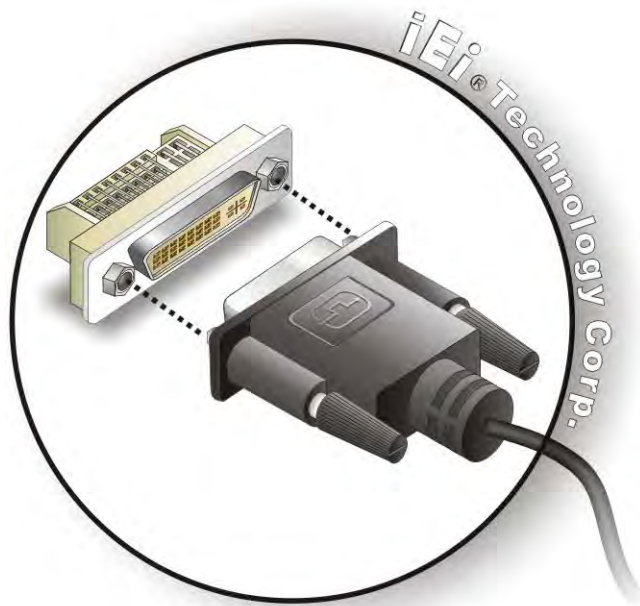

Figure 4-15: DVI Connector
Step 3: Insert the DVI-I connector. Once the connectors are properly aligned with the male connector, insert the male connector from the digital display device into the female connector on the IMB-H610. See **Figure 4-15**.